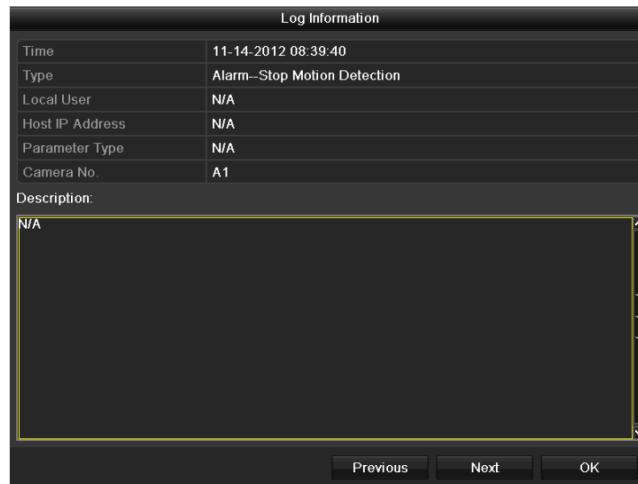

Figure 12.9 Log Details
5. You can click the button of each log or double-click it to view its detailed information, as shown in Figure 12.9. And you can also click the button to view the related video files if available.